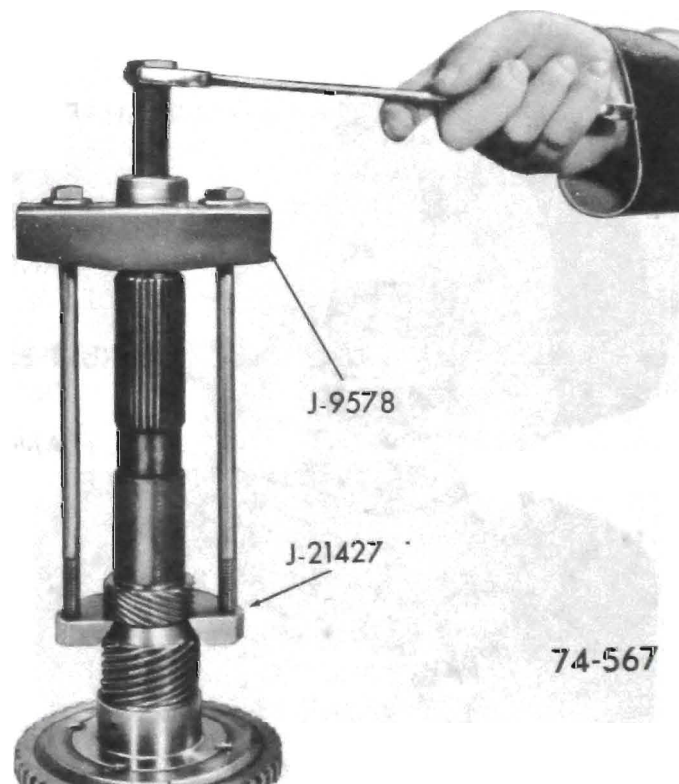

Figure 76-109
a. *Steel Speedometer Gear:* Install steel Speedometer Gear Removing Tool J-21427 and J-9578, on output shaft and remove speedometer drive gear. See Figure 76-109.